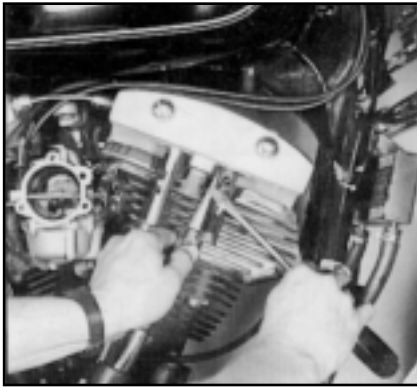

Fig. 4
2. Remove pushrod cover keepers and lift covers (Fig. 4 & 5). Remove spark plugs and rotate engine with kicker, or by moving rear wheel with motorcycle in gear. Turn engine until both valves are closed on the front cylinder. This is found when you can see both front cylinder tappets in the down position and see the piston at the top through the spark plug hole. Loosen the locknuts on each pushrod adjuster and adjust shorter until pushrod can be lifted out (Fig. 6). Repeat this same procedure